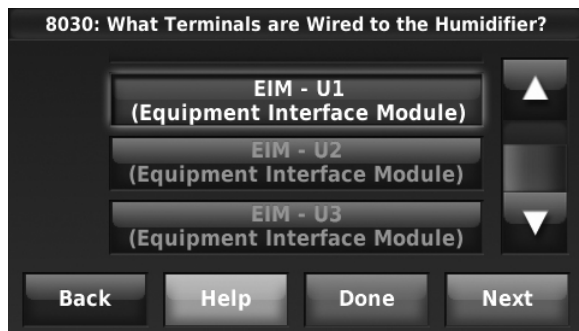

Fig. 107.
- Select the terminals wired to the humidifier. See Fig. 107.